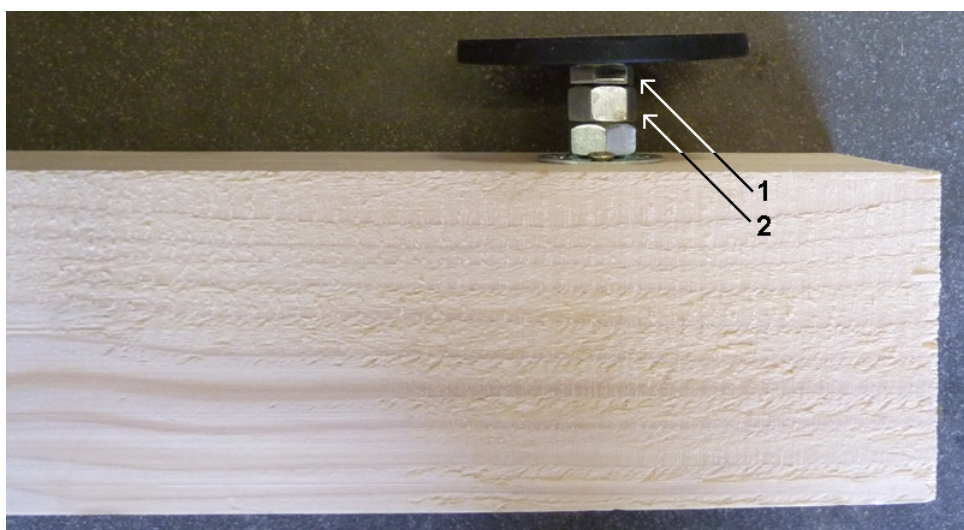

Figure 3.11: Square timber with leveling foot
7. Remove the square timber with leveling feet from below the system cabinet. Screw the nut [2] onto the leveling feet with the spanner provided, turning it counterclockwise upwards until it reaches the nut [1] (refer to FIGURE 3.11).